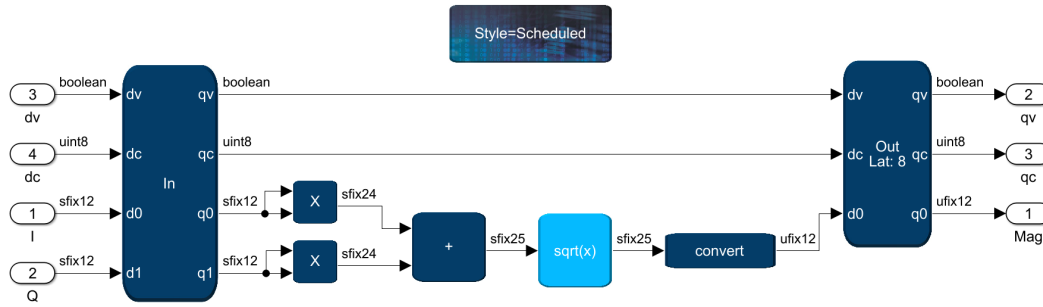

Figure 3: Contents of the *Magnitude1* subsystem.
- You will now create a block that calculates the magnitude of the complex I/Q symbols. Add a new subsystem and name it **Magnitude1**. This subsystem should have four inputs (**I**, **Q**, **dv** and **dc**) and four outputs (**Mag**, **qv** and **qc**). Add the mandatory *ChannelIn/Out* and *SynthesisInfo* blocks to the subsystem, and connect the **dv** and **dc** input signals directly to the corresponding outputs. Build the system as shown in Fig. 3 and make sure that the output type of the **Mag** signal is an unsigned of **wordLength** bits.